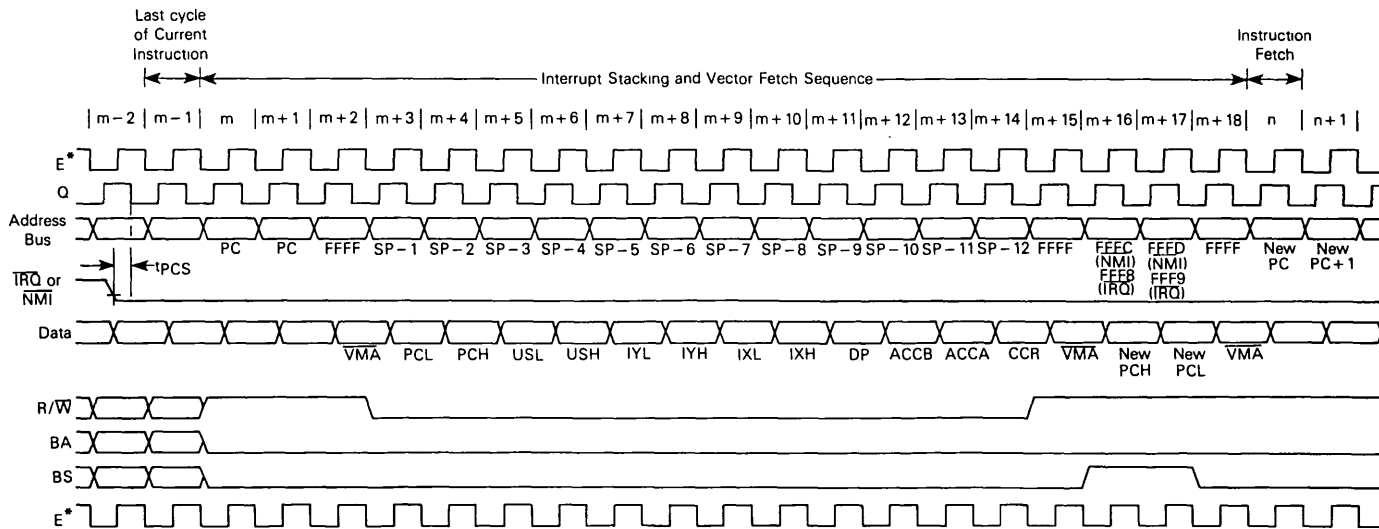

FIGURE 10 —  $\overline{\text{FIRQ}}$  INTERRUPT TIMING
A low level on this input pin will initiate a fast interrupt sequence, provided its mask bit (F) in the CC is clear. This sequence has priority over the standard interrupt request (IRQ), and is fast in the sense that it stacks only the contents of the condition code register and the program counter. The interrupt service routine should clear the source of the interrupt before doing an RTI. See Figure 10.